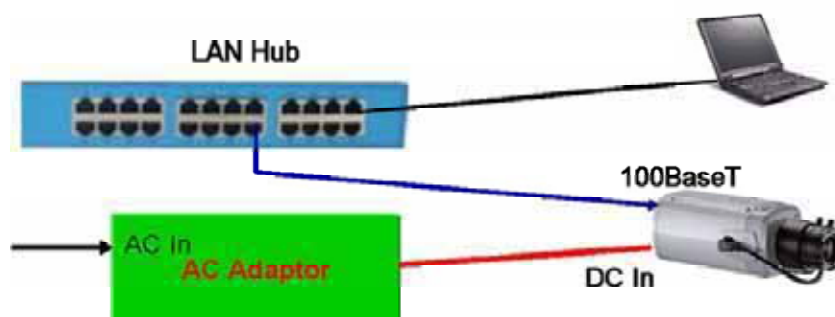

Figure 2-7. Connecting Network camera and PC without using PoE
- 3) If you have standard power connect the network camera and PC as illustrated in Figure 2.7.